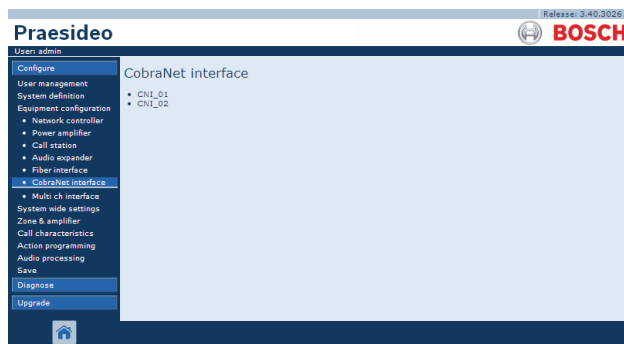

figure 44.38: Configure CobraNet interface step 1
- 1 Go to *Configure > Equipment configuration > CobraNet interface*. A screen similar to the one in figure 44.38 appears in the main frame of the web interface.